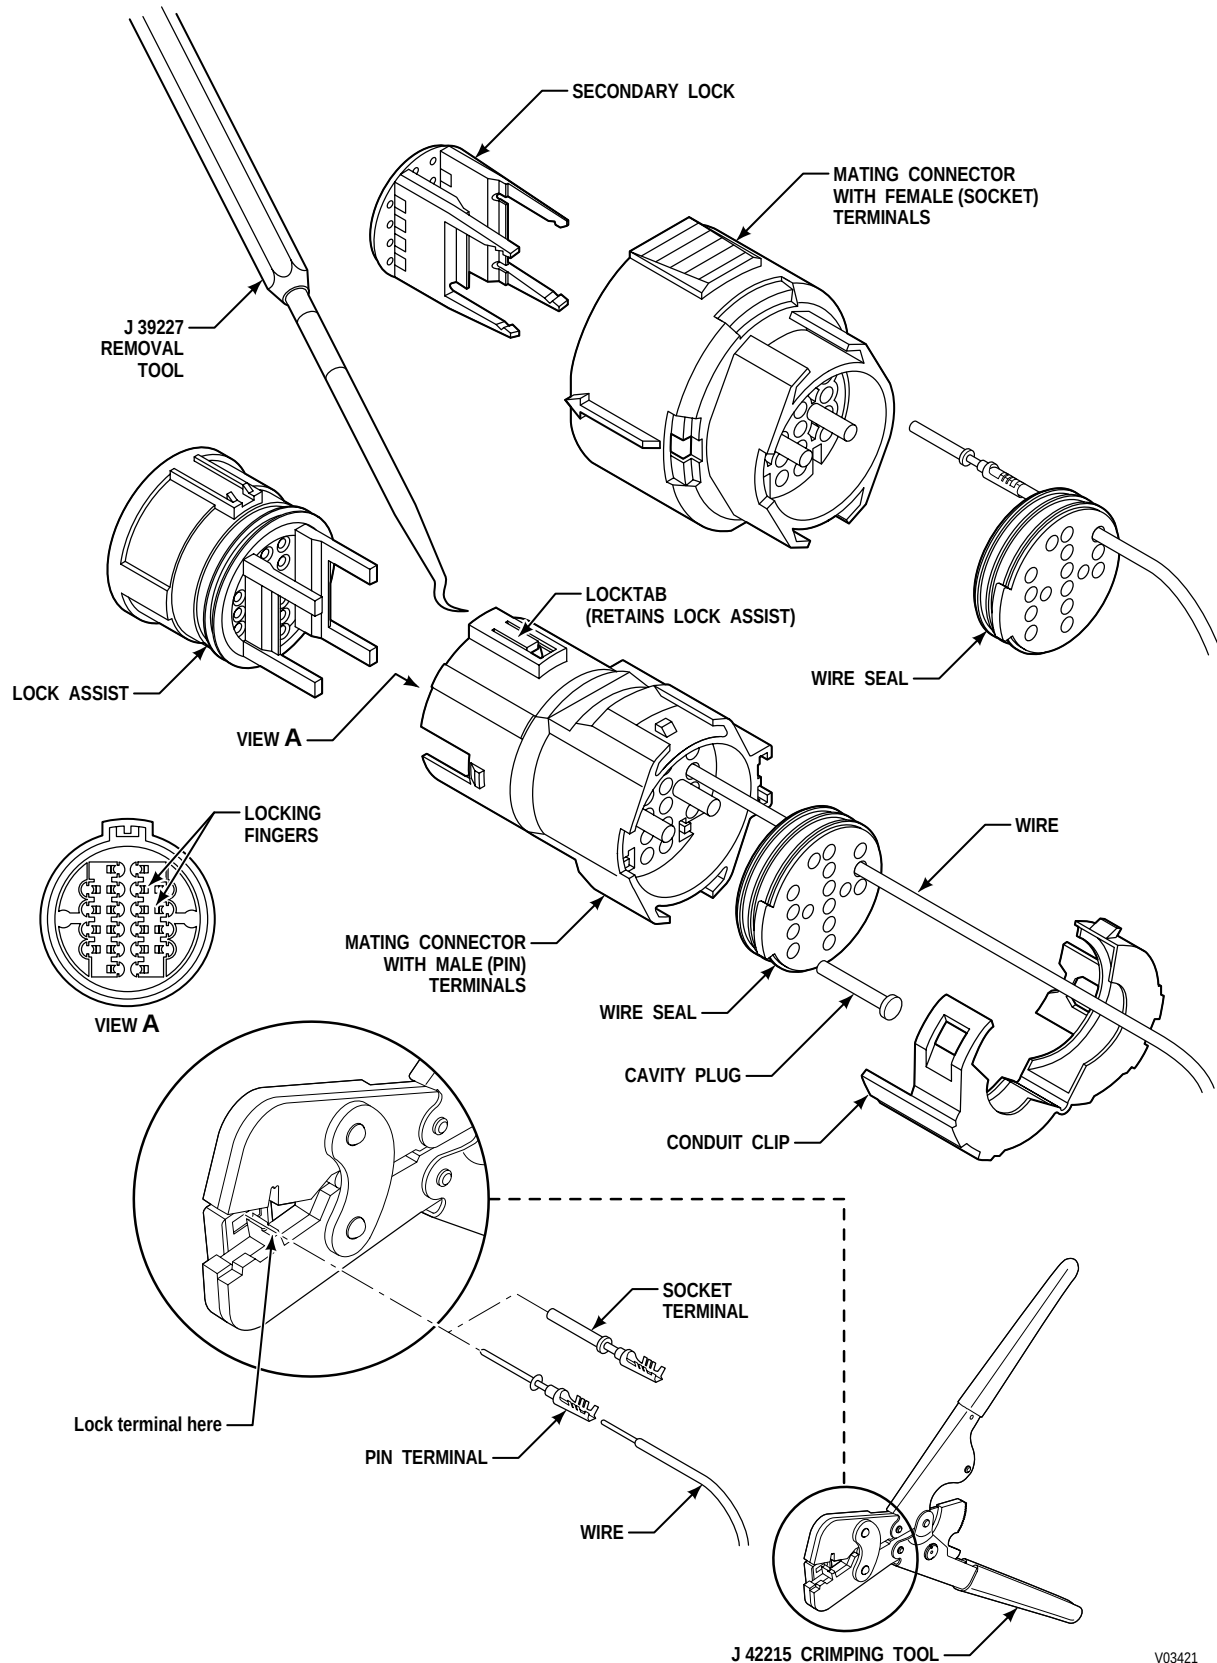

Figure C-1B. Delphi-Packard Micro-Pack Connector (VIWV, VIWS, Shift Selector)
- ##### 2. VIWV and VIWS Harness Connectors and Shift Selector (Device) Connectors (*Figure C-1B*)
- ##### 3. VIWV and VIWS (Device) Connectors and Shift Selector Harness Connectors (*Figure C-1B*)
4. Complete terminal installation for VIW and Shift Selector Connectors as follows: (*Figure C-1B*)